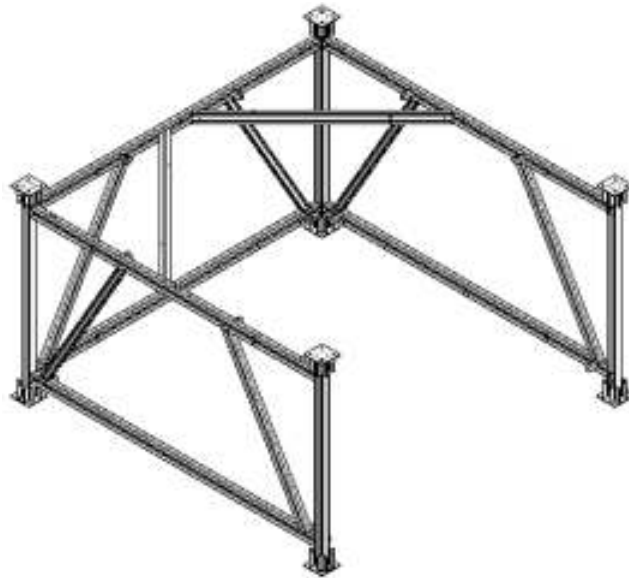

Fig. 6.1
5. Connection of the two SP-frames with one SP-diagonal brace (Fig. 6.1). Screw fitting see step 3.